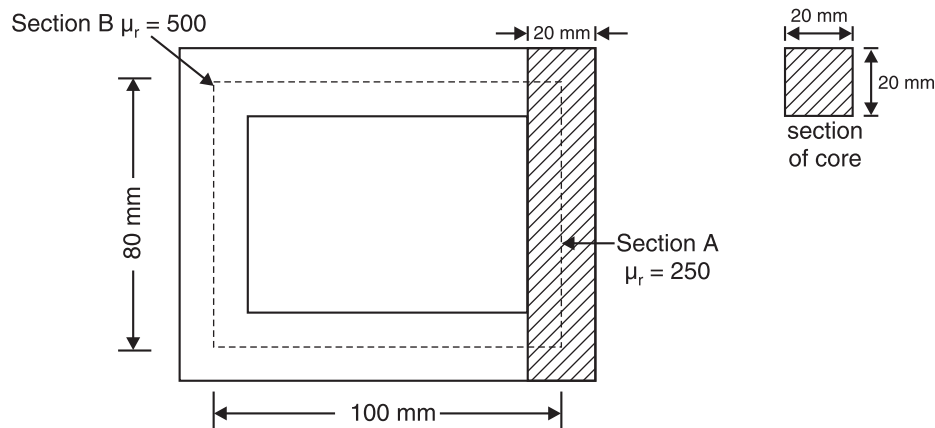

Fig. 8.11
**Example 8.7.** A magnetic circuit is constructed as shown in Fig. 8.11. Both sections A and B are of 20 mm by 20 mm square cross-section and the mean dimensions are 100 mm by 80 mm. The relative permeability of section A is 250 and of section B is 500. Find the reluctance of each section and the total circuit reluctance.
**Solution.** The conditions of the problem are represented in Fig. 8.11. The area of X-section of the core,  $a = 20 \times 20 = 400 \text{ mm}^2 = 4 \times 10^{-4} \text{ m}^2$ .